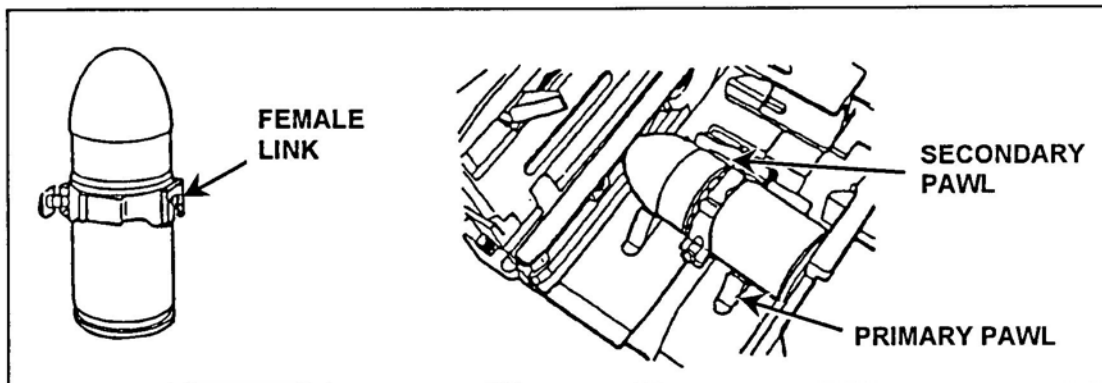

Figure 1. Insertion of first round through feed throat.
- a. Open the top cover and insert the first round through the feed throat into the feeder, link opening first (Figure 1).